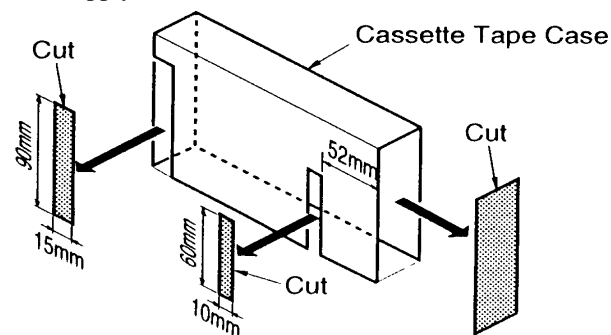

Fig. 4 - Hot Chassis Safety Cover
**Caution:** **HOT CIRCUIT** (Primary circuit) exists on the Main circuit board. Use extreme care when servicing to prevent electrical shock. Refer to Fig. 4 for suggested safety procedure.
### Hot Chassis Safety Cover (Fig. 4)
Using a cassette tape cover, cut and fashion it to the specifications shown in Fig. 4. After preparing the tool from the cassette cover, place it over the power supply section on the Main circuit board to prevent accidentally touching the power supply.
6. Cover the Power Supply section on the Main circuit board with the **Hot Chassis Safety Cover** (Fig. 4.) to prevent electrical shock when servicing.